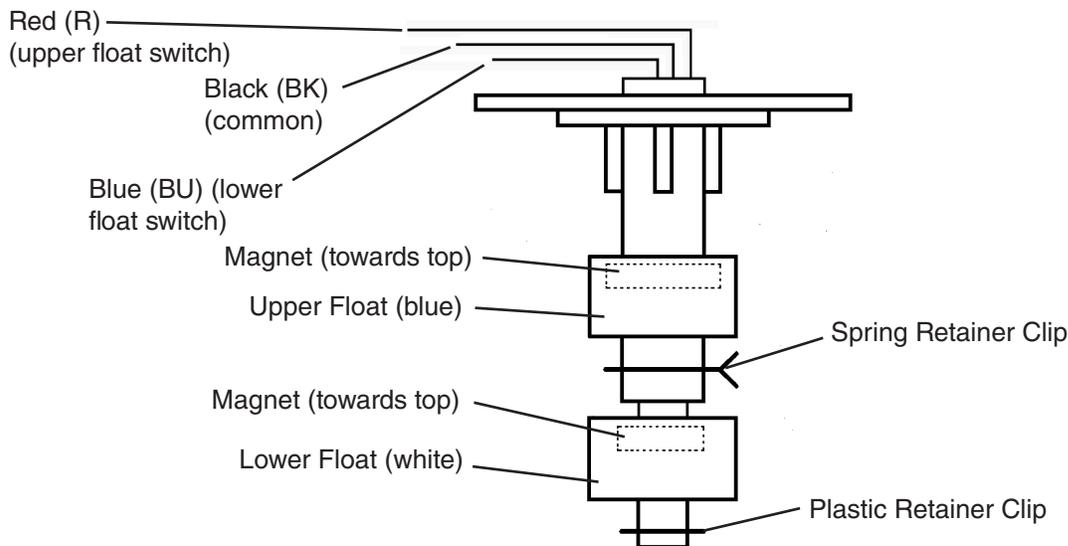

Fig. 6
- 4) Disconnect the moxex plug from the control box and check continuity across FS wires. (BK) to (R) for UFS and (BK) to (BU) for LFS. See Fig. 6. With the water reservoir empty, FS switches are open. If open, continue to step 5. If closed, follow the steps in "II.E.2. Float Switch Cleaning." After cleaning the floats, check them again. Replace if necessary.
- 8) Disconnect the moxex plug from the control box and check continuity across FS wires. (BK) to (R) for UFS and (BK) to (BU) for LFS. They should be closed. Clean or replace if necessary.
- 4) While not necessary, the floats can be removed from the shaft during cleaning. If you remove them, note that the blue float is on top. The floats must be installed with the magnets inside them towards the top of the switch. See Fig. 6. Installing the floats upside down will affect the timing of FS operation.